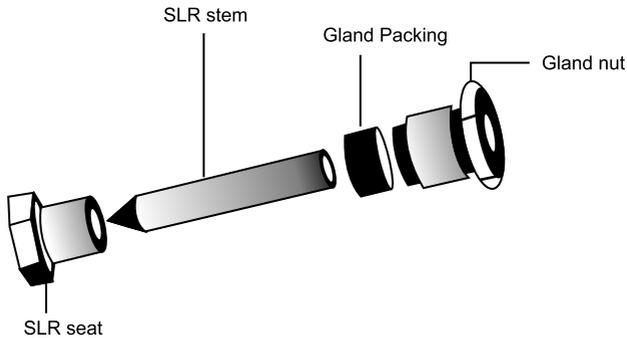

Figure 9: SLR assembly
#### 7.5 Procedure to fit the Steam Lock Release (SLR) assembly: (Refer to Figure 9)
2. Remove the SLR gasket (not shown in the figure 9).